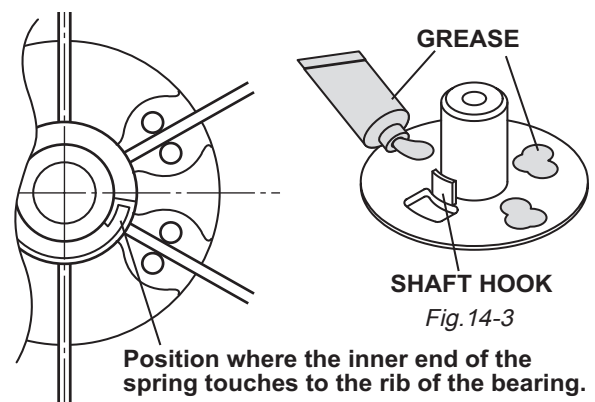

Fig. 14-4
- 2 Adjust the position of the inner end of the spring in the reel. (Fig. 14-4)